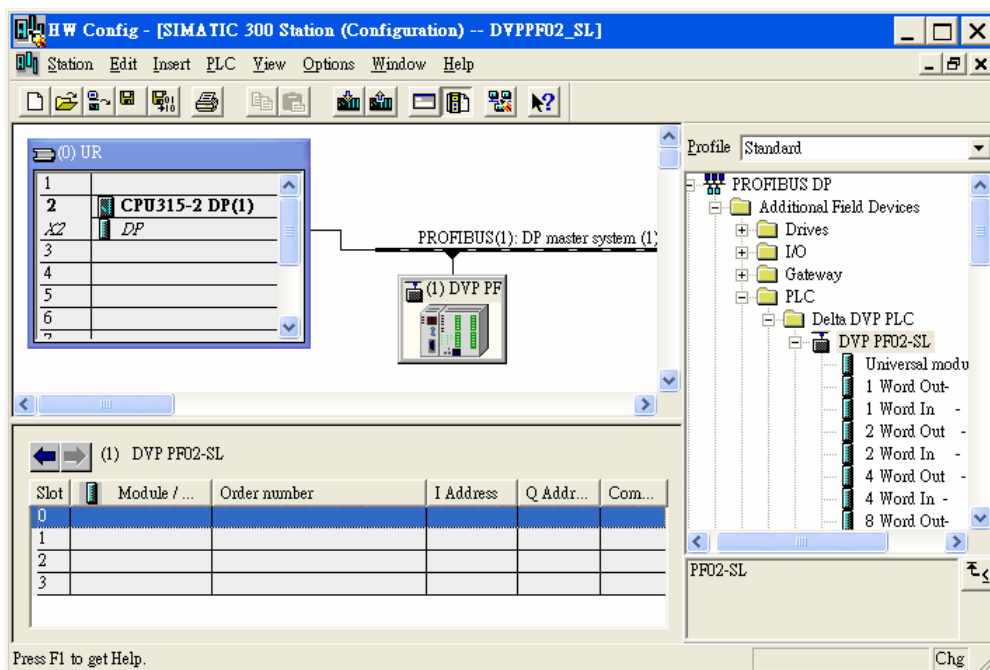

Figure 10-23
4. Select Slot 0 and double click "1 Word Out" on the right-hand side window, as Figure 10-23.